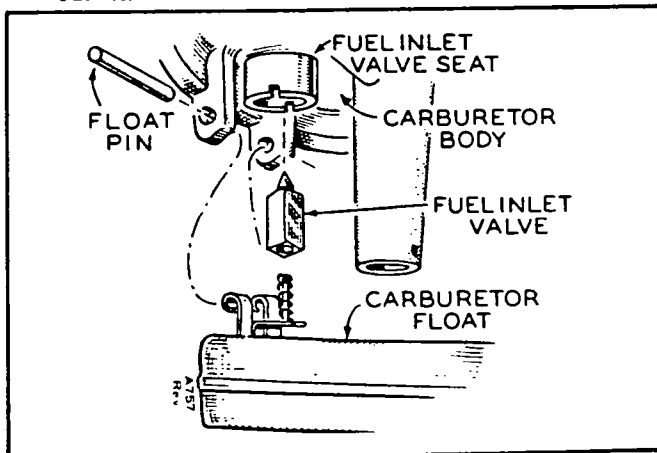

FIGURE 11. CARBURETOR DISASSEMBLY
5. Remove the float pin and float. Figure 11.